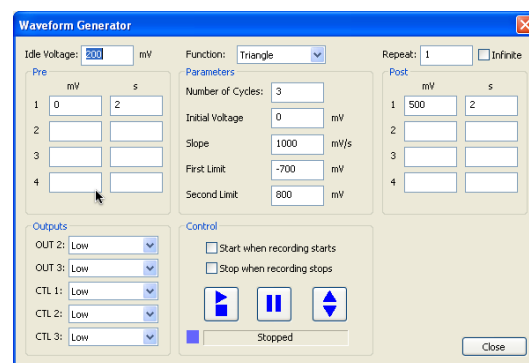

Figure 2. Control panel provided by Chart software.
The Waveform Generator can also be used in conjunction with Chart software (version 5.5.9 or later) and an eDAQ e-corder unit. In this case the I²C ports of the e-corder and Waveform Generator are connected with the cable provided. This provides communication to the Waveform Generator (the USB cable is not required). Power up the Waveform Generator with the 12 V DC plug pack before starting the e-corder and Chart software. The software control panel (Figure 2) is accessed using the Waveform Generator command in the Chart Setup menu. No programming with the serial protocol is required!
- Starts and stops the waveform running. The waveform comprises a series of preconditioning voltage levels (pre), the main function (triangle, ramp, pulse, or none), followed by postfunction (post) voltage levels as defined by the Chart control panel, Figure 2, or by a set of instructions sent over the virtual serial port.